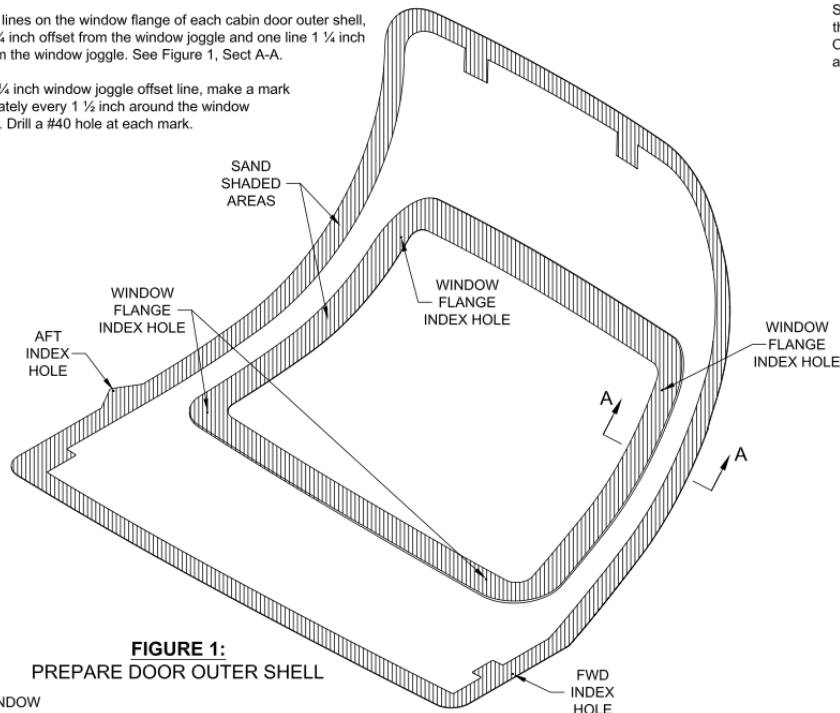

FIGURE 1:
Step 1: Trim the outside perimeter and window flange of the C-1002A-L and -R Cabin Door Outer Shells as shown in Figure 1.
Draw two lines on the window flange of each cabin door outer shell, one line 3/4 inch offset from the window joggle and one line 1 1/4 inch offset from the window joggle. See Figure 1, Sect A-A.
Step 3: Sand the bag side surface of the C-1002A-L and -R Cabin Door Outer Shells in the areas that will mate to the C-1002B-L and -R Cabin Door Inner Shells. The mating areas are shown shaded in Figure 1.